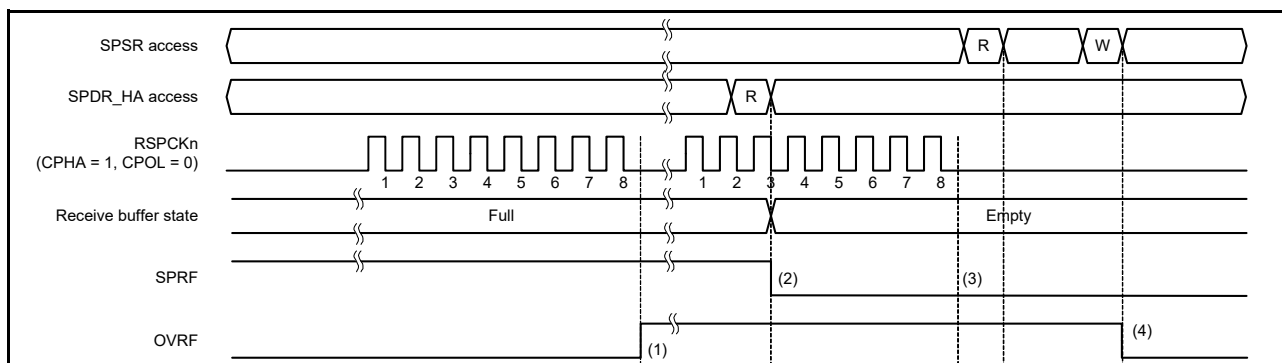

Figure 31.28 Operation example of OVRF and SPRF flags
Figure 31.28 shows an example operation of the OVRF and SPRF flags. The SPSR and SPDR_HA accesses shown in Figure 31.28 indicate the condition of accesses to the register, where W denotes a write cycle and R a read cycle. In the example, the SPI performs an 8-bit serial transfer in which the SPCMDm.CPHA bit is 1 and the SPCMDm.CPOL bit is 0. The numbers given for RSPCKn in the waveform represent the number of RSPCK cycles, such as the number of transferred bits.
The operation of the flags at timings (1) to (4) in Figure 31.28 is as follows: